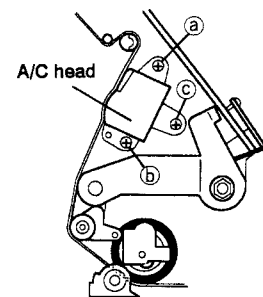
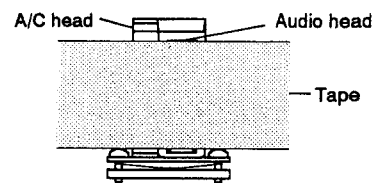
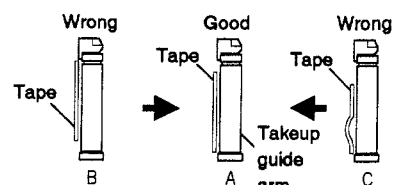

Fig. 4-5-1
Fig. 4-5-2
Fig. 4-5-4
- ① Play the tape recorded using the recorder being adjusted.
- ② Alternately adjust the A/C head height adjuster screw and azimuth screw (Ⓐ, Ⓑ in Fig. 4-5-1) so that the top edge of the tape comes just below the top of the audio head as shown in Fig. 4-5-2.
- ③ Play the alignment tape (6 kHz audio signal : PM6KE2CS).
- ④ Connect the oscilloscope to an audio output terminal (CH R or L).
- ⑤ Alternately adjust A/C head height adjuster screw and azimuth adjuster screw (Ⓐ, Ⓑ) so that the audio output is maximum.
- ⑥ Play the tape used in step (1).
- ⑦ Verify that the tape position at the takeup guid
- ⑧ If the tape is positioned as shown in B or C of Fig. 4-5-4, adjust the A/C head slant adjuster screw (Ⓒ in Fig. 4-5-1) to bring the tape to the position shown in A of Fig. 4-5-4.
- ⑨ After adjusting, disengage the tape. Reengage the tape and make sure that the tape comes at the position A of Fig. 4-5-4 in one second.
- ⑩ If the tape fails step ⑨, repeat steps ⑦ to ⑨.